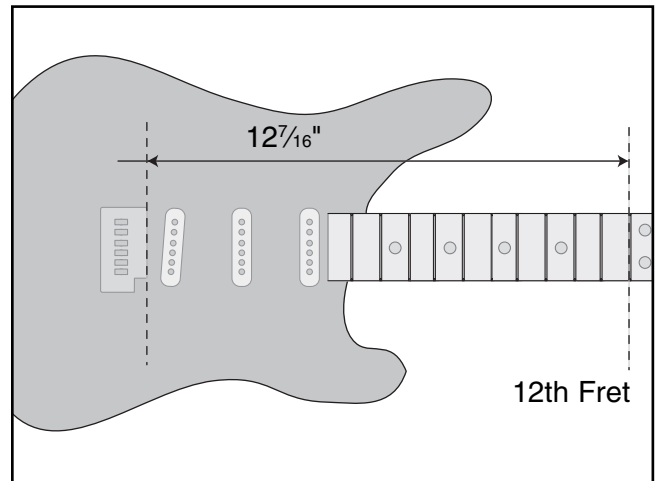

Figure 19. Correct distance between the 12th fret and the tremolo bridge.
2. The tremolo bridge is correctly positioned when the distance between the center of the 12th fret and the front edge of the tremolo bridge are precisely $12\frac{7}{16}$ " apart (**Figure 19**).